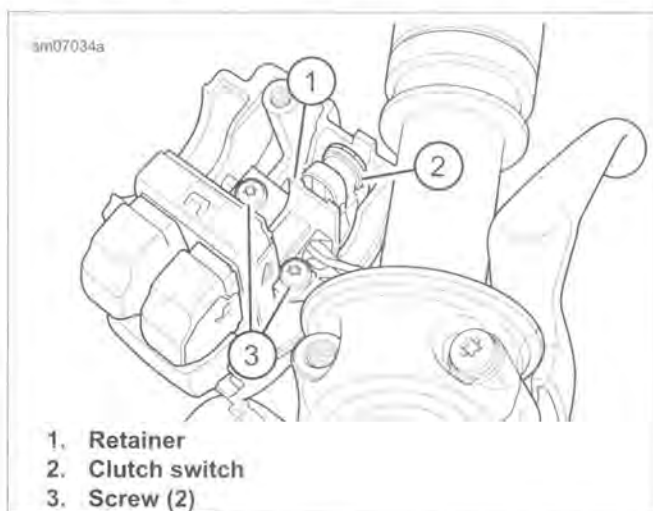

Figure 7-104. Left Handlebar Control Module and Clutch Switch Retainer
3. Disconnect left hand control connector (8).
6. See Figure 7-104. Remove screws (3) and retainer (1).
7. Carefully remove clutch switch (2) and left hand control module from lower housing.
2. See Figure 7-104. From inside the switch housing, remove screws (3) and retainer (1). Remove clutch switch (2) from housing.
8. See Figure 7-104. Install clutch switch (2) into housing. Install retainer (1) and screws (3). Tighten screws to 8-10 in-lbs (0.9-1.1 Nm).
1. See Figure 7-104. Place hand control module into position on lower housing. Install clutch switch (2).
2. See Figure 7-104. Install retainer (1) with screws (3). Tighten to 8-10 in-lbs (0.9-1.1 Nm).